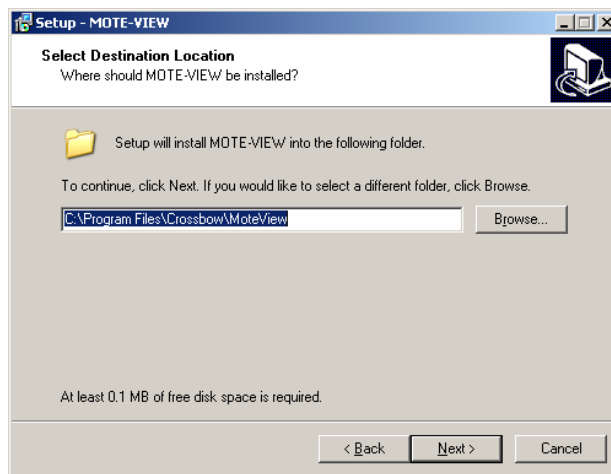

Figure 2-1. Step 4: Destination folder select and confirm screen
4. Select the desired installation directory, then click **Next>** (see Figure 2-1).